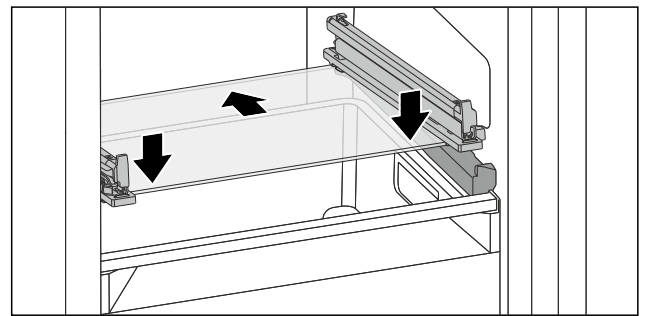

Fig. 134 Tilting drawer glass shelf
- ▶ Position glass shelf at an angle behind the stoppers. (see Fig. 134)